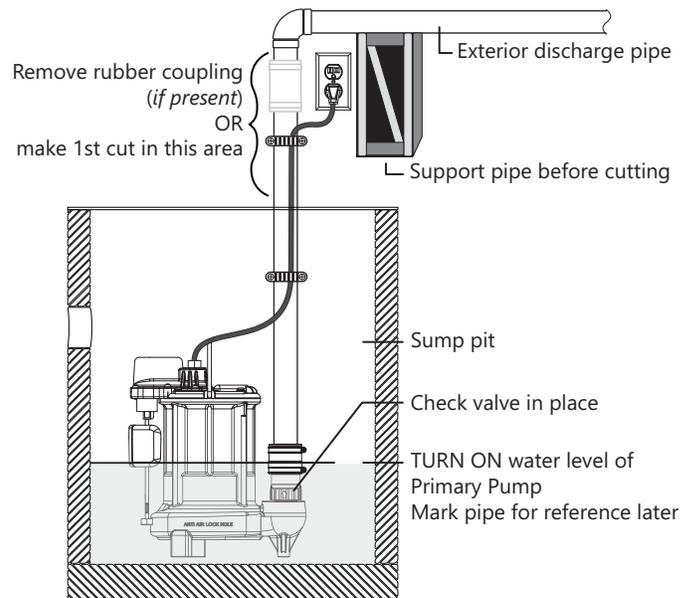

Figure 1. Mark and Cut Pipe
- ◆ To avoid an injury from a collapse of plumbing, support the pipe above the separation before cutting or disassembly. See Figure 1.
1. Locate the TURN ON water level of the primary sump pump. Mark this location on the discharge pipe. See Figure 1.
1. The primary sump pump needs to be separated from the discharge pipe and removed from pit. Refer to Figure 1. To separate the primary pump from the discharge pipe:
1. The float in its off position should be mounted in the sump such that it is a minimum of 1/2" above the water level at which the primary pump turns on (as noted in Figure 1). The float can be mounted on any of the vertical pipes in the pit (primary discharge, backup discharge, or other plumbing) provided the float height differential can be maintained and the float is allowed space to travel unobstructed along the float rod.